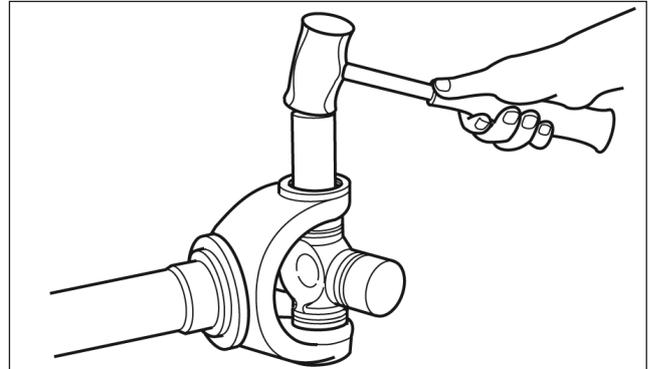

Fig. 4.12
4. If necessary, use a brass drift and lightly tap the center of the bushing to assist in snap ring removal. - Fig. 4.12